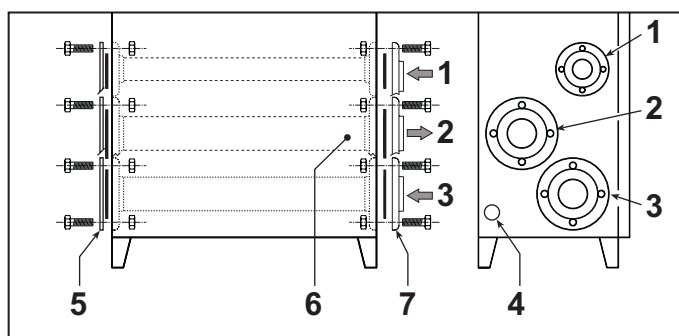
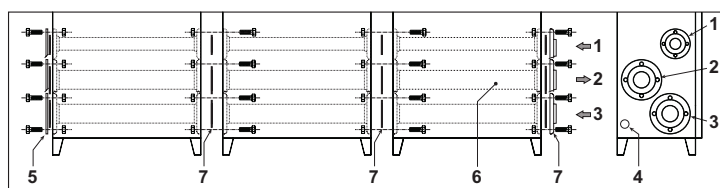

fig. 16
fig. 17
To connect a single module - fig. 16
To connect several modules in cascade - fig. 17
- At the end, fit the blind flanges on the last module, inserting the special seals (fig. 16 and fig. 17).